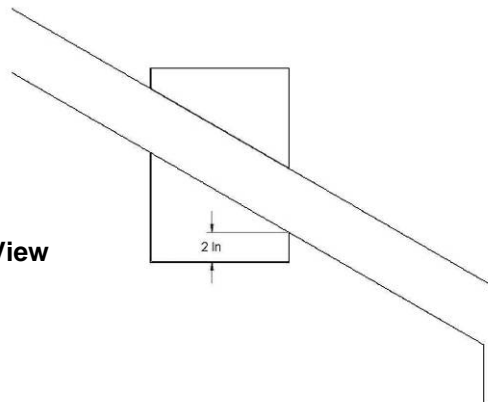

Figure 46 - Support Box Side View
6. Run the Support Box through the roof, and place it so that the bottom of the Support Box protrudes at least 2 in (5 cm) below the finished ceiling. Align the Support Box vertically and horizontally with a level. Temporarily tack the Support Box in place through the inside walls and into the roof sheathing. See **Figure 46 - Support Box Side View**.